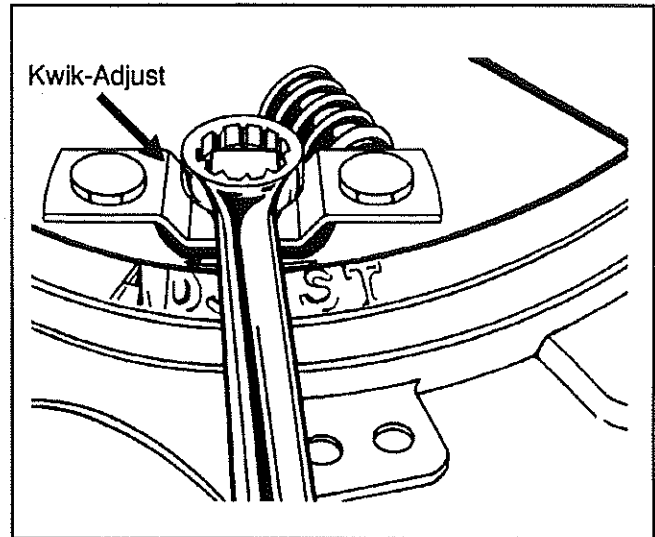

Fig. 24
3. If clearance is incorrect, release the clutch by depressing the clutch pedal to end of pedal travel, then insert a $3/4"$ socket (12 points) or a $3/4"$ box-end wrench through inspection hole and depress square-head bolt to adjust clutch (see fig. 24). The "Kwik-Adjust" will re-engage at a quarter of a turn. The flat on the bolt head will align with the flat edge of the bracket.